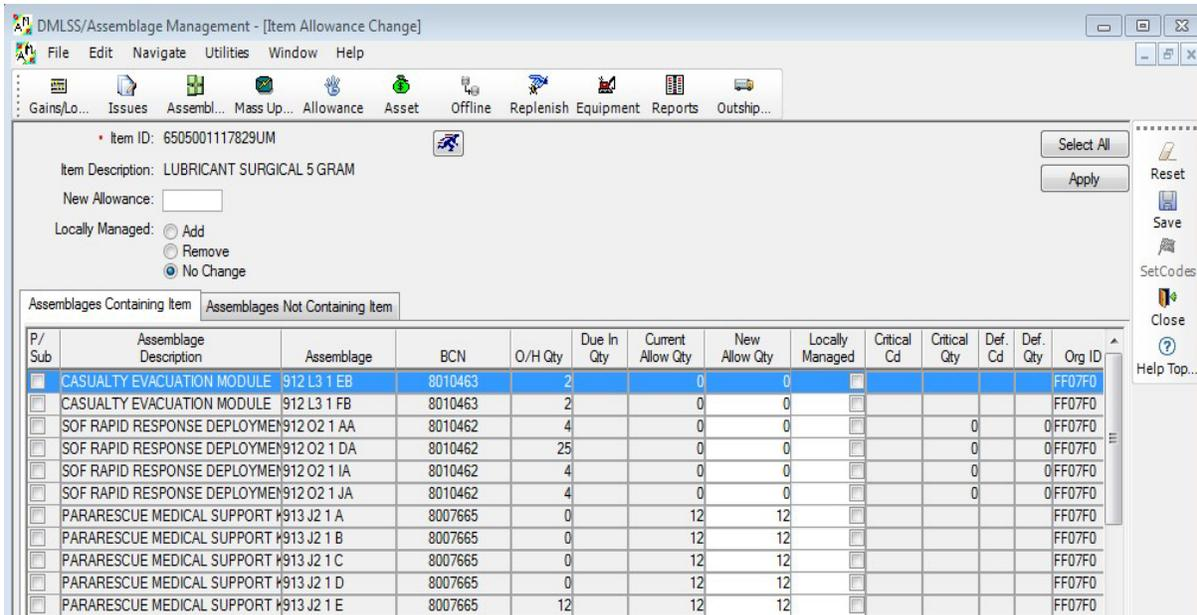

Figure 9. Item Allowance Change Window.
(1) Use the “Non-standard Assemblage Allowance Change” function explained in paragraph f. of this enclosure to apply mass allowance updates to non-standard assemblages. Electronic allowance updates for standard assemblages are accomplished using the Standard Assemblage Update function shown in paragraph v. of this enclosure.
(2) Select “Item Allowance Change” from the navigate dropdown menu or select the “Allowance” icon located on the horizontal toolbar to access the “Item Allowance Change” window. Once the window opens, enter the Item ID and select the enter key. If necessary, select the “Jump To” button located next to the Item ID field to go to the MTF Catalog search screen and create a new record. Upon entering a valid Item ID, two tabs are displayed in the Item Allowance Change window—the Assemblages Containing Item, and Assemblages Not Containing Item tabs (Figure 9).